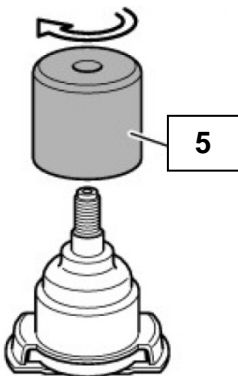

Fig. 4
2. Screw the guide sleeve (5) over the rubber sleeve and onto the pivot bolts (see Fig. 4).